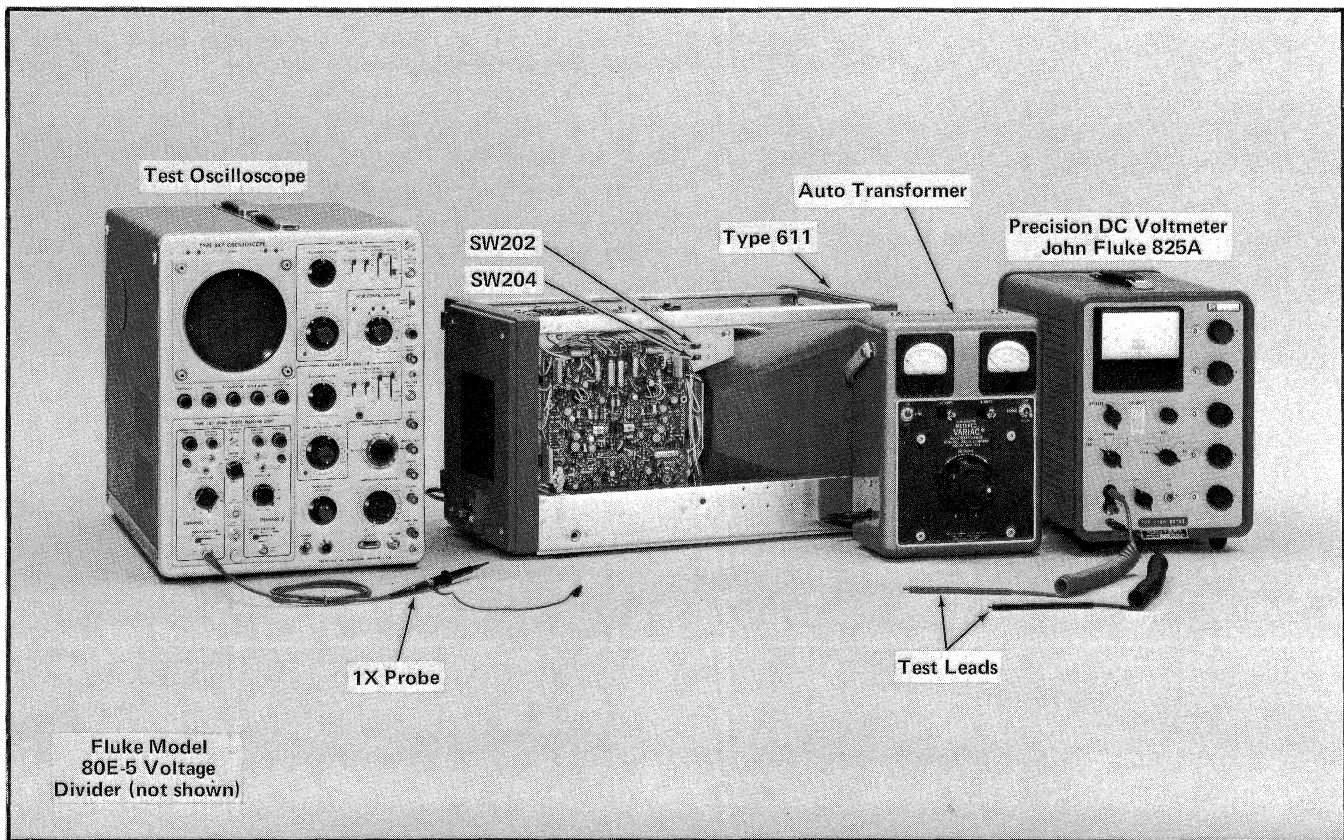

Fig. 5-1. Equipment required for Power Supply calibration steps. Locations of SW202 and SW204 are shown.
SW202 (Fig. 5-1)	centered
SW204 (Fig. 5-1)	centered
1. Check or Adjust –100 Volt Supply (R817) ①
- a. Test equipment setup is shown in Fig. 5-1.